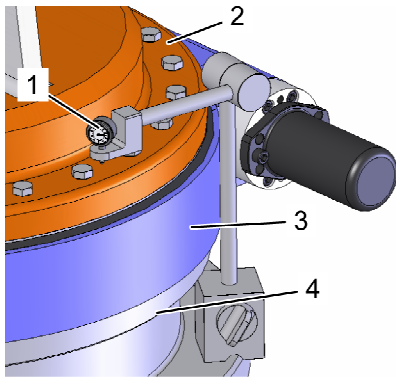

Fig. 24: Measurement setup
3. Attach the dial gauge as shown in Fig. 24.